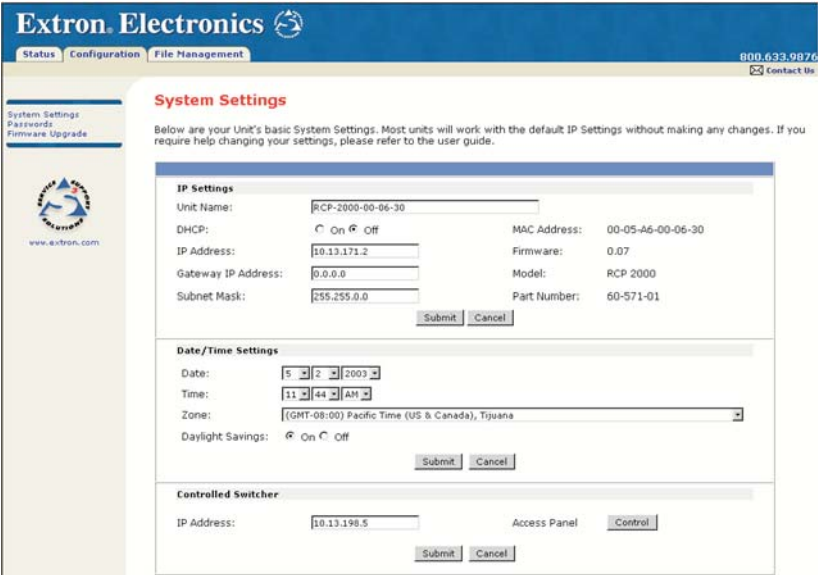

Figure 4-4 — System Settings screen
1. Select the Configuration tab. The System Settings screen (figure 4-4) opens.
- 4. Select the Configuration tab. The System Settings screen (figure 4-4) opens.